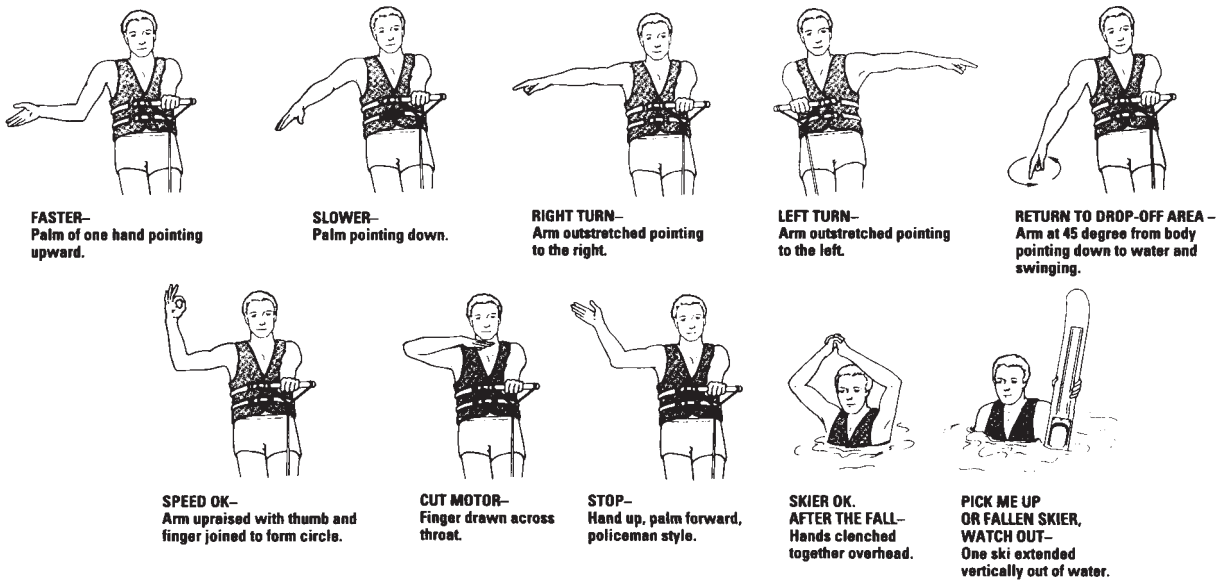

Figure B-17: Skier's Hand Signals
3. Have a second person aboard to observe the skier and inform the driver about the skier's hand signals (Figure B-17). The driver must give full attention to operating the boat and the waters ahead.